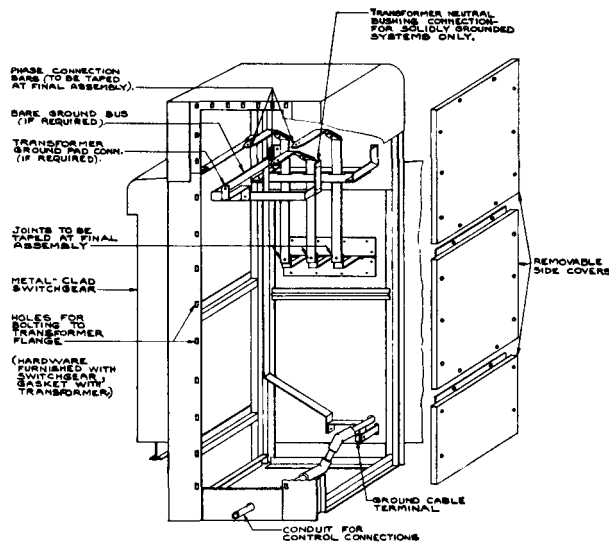
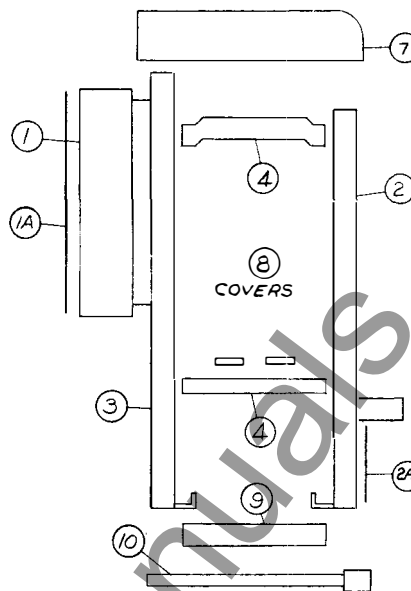

Fig. 20
Fig. 21
Transition compartments for outdoor unit substations may be one of two types (Figs. 20 and 21). These compartments are normally shipped assembled. The full height compartment (Fig. 20) cannot be disassembled for installation. The throat type compartment (Fig. 21) can be installed in any of three ways, in accordance with the following instructions:
(d) Place molded covers around the bolted splice joints. Note that compound filling space is at top of joint, and add filler pieces furnished for the purpose to the bottom of box and around bus bar laminations (Fig. 20) to prevent compound leakage while filling. Duxseal should be placed over the joints to make the box free of leaks while filling. The Duxseal should be removed after the compound has set. G.E. #860 cord should be used to hold the molded parts securely in place.
(3) In unit substations, the connection bars should be assembled in the transition compartment (Fig. 20 and 21) and the connections at the transformer terminals greased, taped and painted as indicated above. The conduit for secondary circuits should also be assembled in or below the transition compartment.